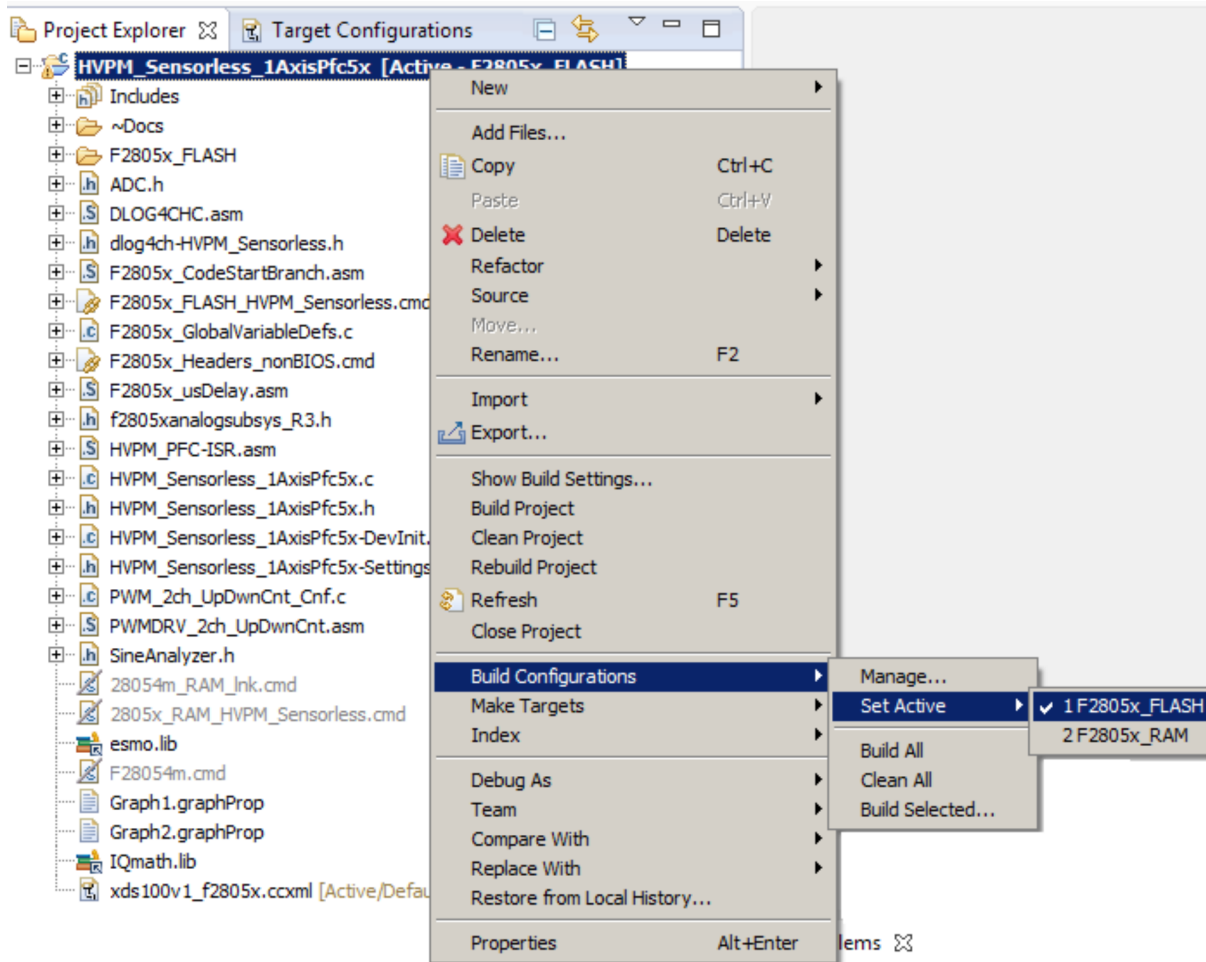

Figure 9. Selecting the F2805x\_FLASH Configuration
**NOTE:** You can configure each project to create code and run in either flash or RAM. For this particular device, use the flash configuration for both experimentation and production. See Figure 9.